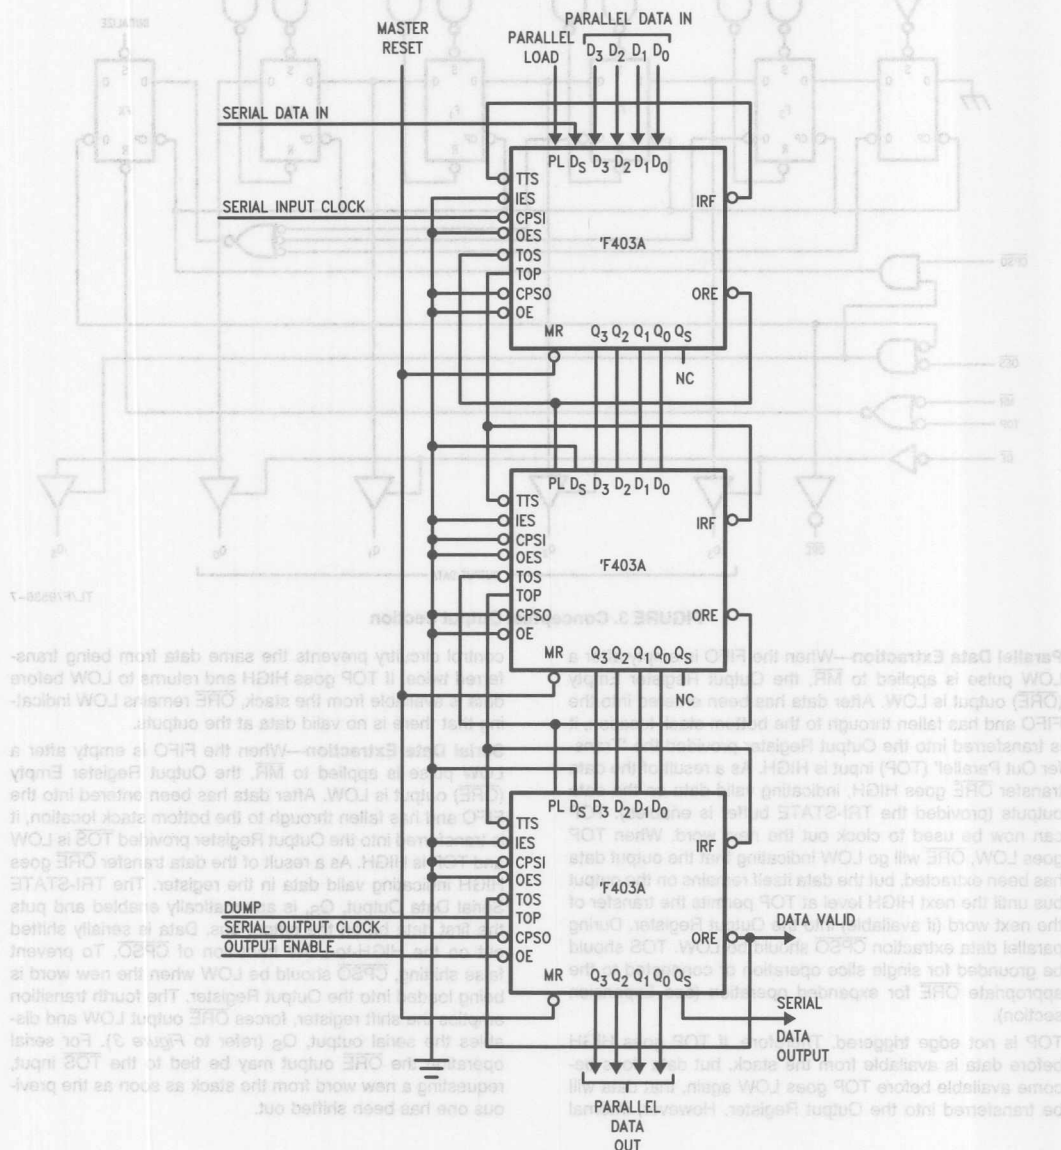

FIGURE 4. A Vertical Expansion Scheme
**Vertical Expansion**—The 'F403A may be vertically expanded to store more words without external parts. The interconnection is necessary to form a 46-word by 4-bit FIFO are shown in Figure 4. Using the same technique, and FIFO